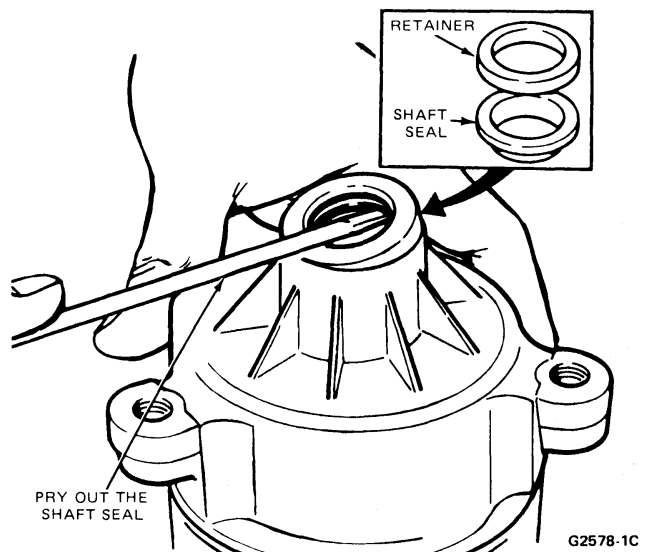

FIG. 16 Removing Rotor Shaft Seal
13. Remove the rotor shaft seal and seal retainer simultaneously by prying out with a screwdriver (Fig. 16).